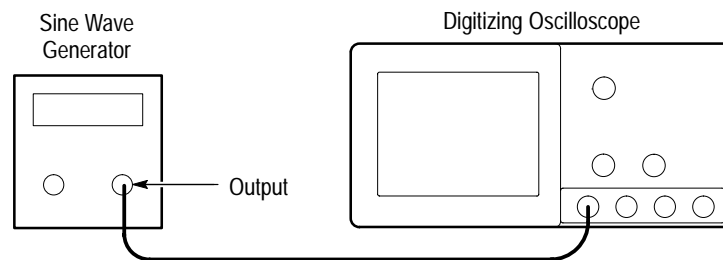

Figure 4–13: Initial Test Hookup
c. *Hook up the test-signal source:* Connect, through a 50  $\Omega$  precision coaxial cable, the signal output of a sine wave generator to **CH 1** (see Figure 4–13).